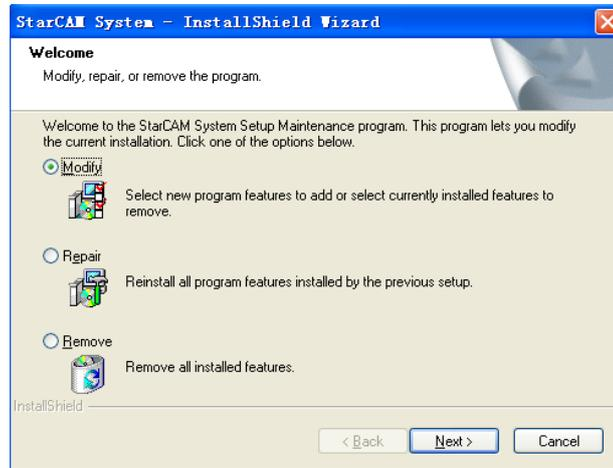

Figure 12
1. If the software has been installed, when double clicking the file Setup.exe, the download repair interface shown in Figure 12 can be entered.